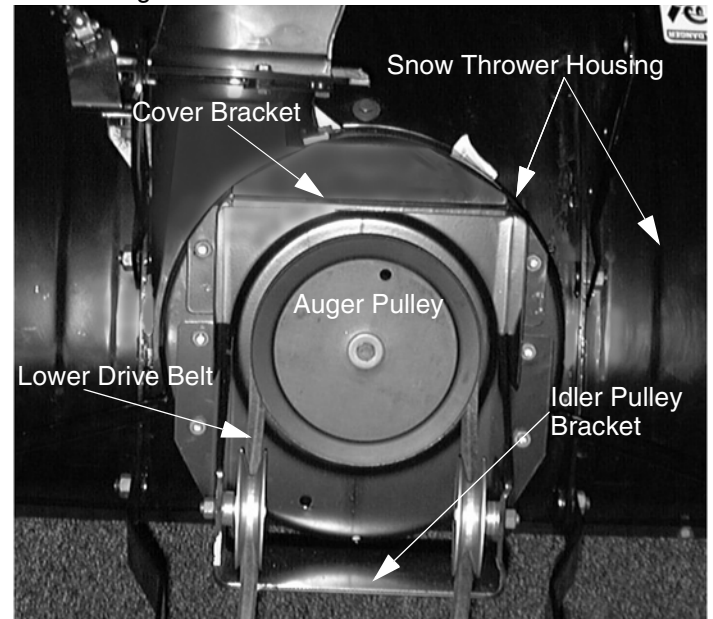

**Figure 8**
22. Install the Locking Rod, flat washer, and Spring into the new Lift Bracket Assembly. Rotate the cross shaft assembly to align the slots in the Lift Bracket Assembly with the slot in the Lock Bracket. Secure the Locking rod at the base with the bolt and flat Washer using a 5/16 socket. See Figure 7. Refer to Figure 8 if necessary.
24. Thread the "Z" end of the Cable through the hole in the Locking Rod from the front. Thread the nuts on the Cable Housing away from each other. Place the threaded section of the Cable Housing in the slot on the Lift Bracket Assembly. One nut should be above the bracket; the lock washer and other nut should be below the bracket. Pull gently upward on the Cable Housing until nearly all the slack is removed from the Cable. Thread the lower nut upward until the lock washer is pushed against the bracket. Tighten the upper nut securely against the bracket using a 1/2 inch wrench. See Figure 8.